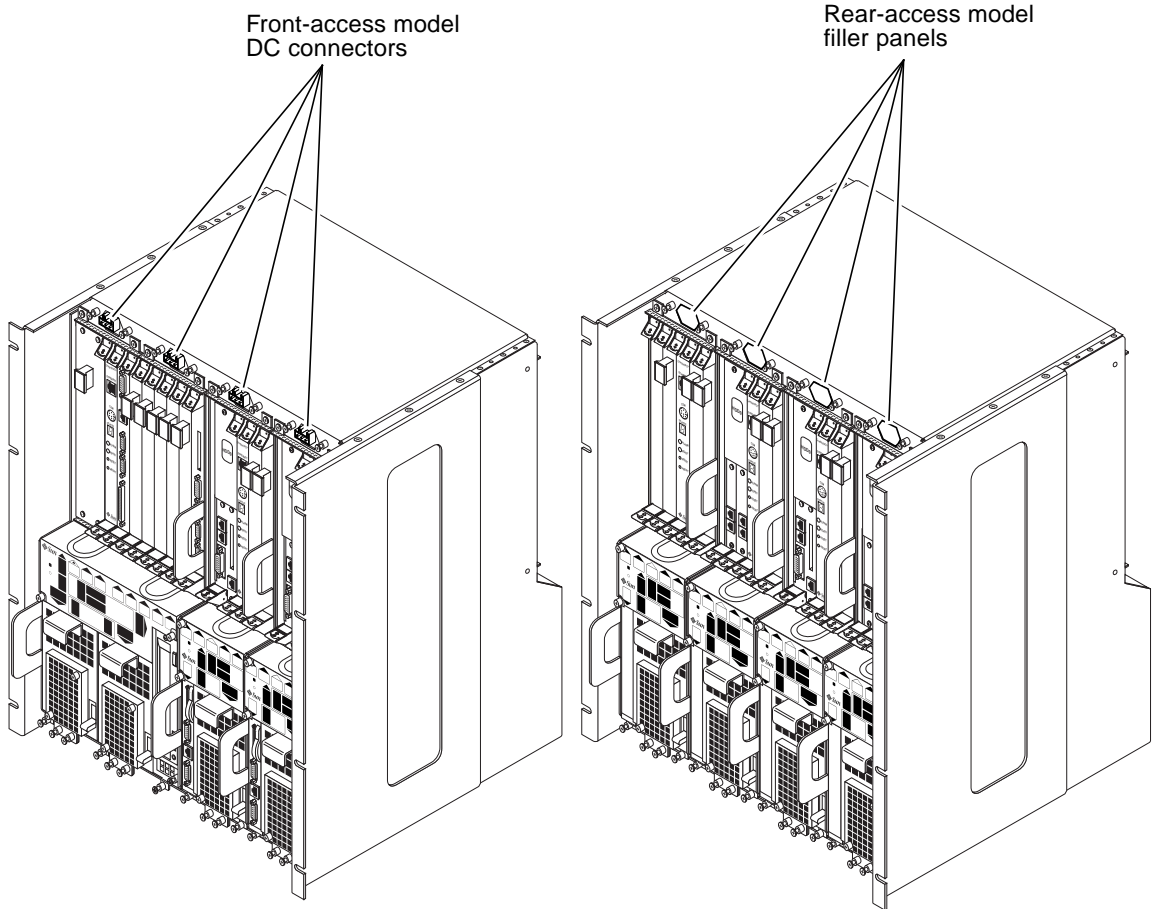

FIGURE 2-1 Front-Access and Rear-Access Models
- If you see the DC connectors at the front of the chassis, you have a *front-access* model (FIGURE 2-1).
- If you do not see DC connectors at the front of the chassis, and metal filler plates fill the gaps where the DC connectors would normally be, you have a *rear-access* model (FIGURE 2-1). The DC connectors are at the rear of the chassis for the rear-access model.